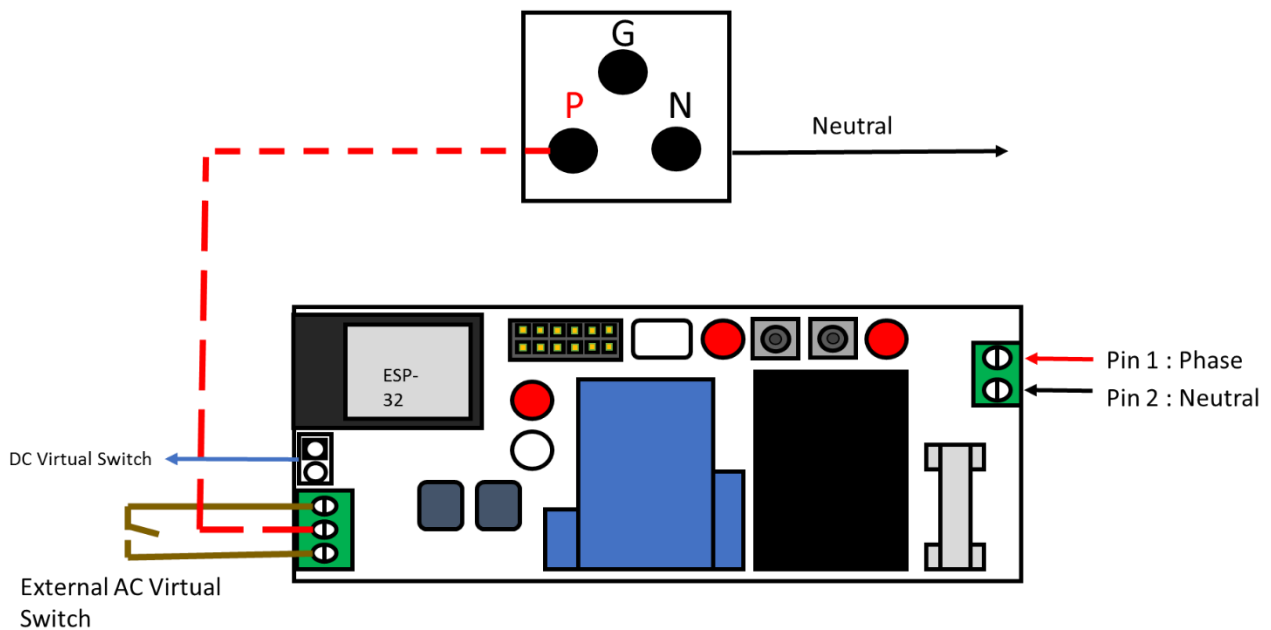

Figure 5: Socket Connection
Figure 5 represents about connection between electrical socket and relay output (J5) connector.
1. Make an input connection AC phase and Neutral connection as shown in Figure 5.